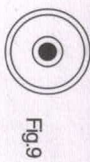

Fig.9
- (1) Turn footscrews to centre the bubble.
- (2) Turn the instrument 180° , the bubble shall be at centre. (Fig.9) otherwise it shall be adjusted. The method is as following.